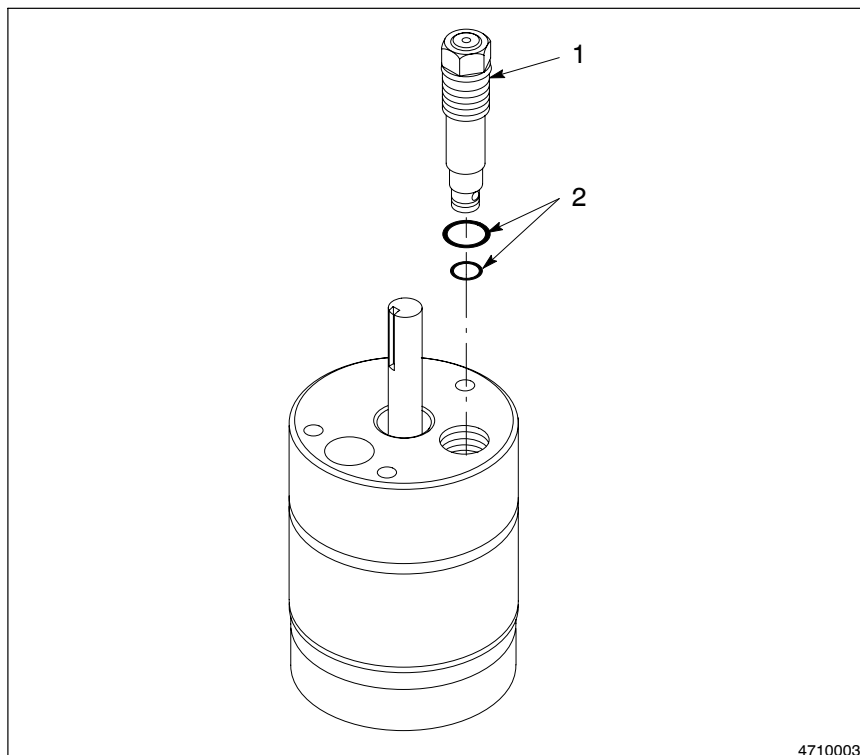

Fig. 7-23 Removing the Pressure Relief Valve and O-rings
6. See Figure 7-23. Remove the pressure relief valve (1) from the pump body. Discard both O-rings (2) from the valve.
1. See Figure 7-23. Coat the pressure relief valve O-ring grooves with O-ring lubricant. Place the new O-rings in the grooves and apply additional lubricant to the O-rings.